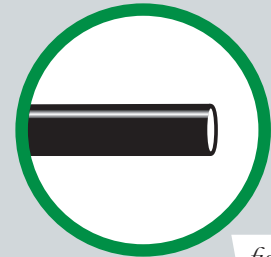

fig. E.1
When cutting air lines, use a sharp knife or a hose cutter and make clean, square cuts (Fig. E.1). Do not use scissors or wire cutters because these tools will deform the air line, causing it to leak around fittings. Do not cut the lines at an angle.
1. If there is a problem with the push-to-connect fitting, remove the air line as described above. Trim 25mm (1") off the end of the air line. Be sure the cut is clean and square (see Fig. E.1).